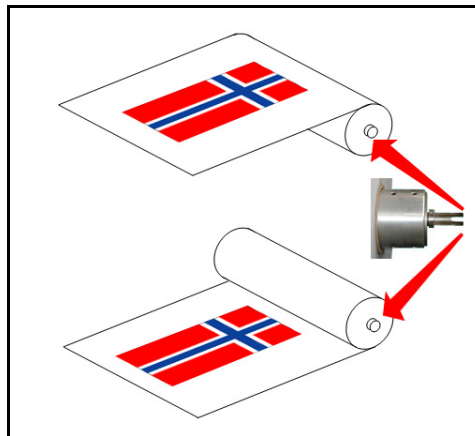

Figure 4-37 - Film Orientation
5. Insert shaft into new film roll. Make sure that shaft is oriented so that its slotted end is on the side shown and the film unrolls in the direction shown. As the diagram shows, the direction in which the film unrolls depends on whether the print image on the film is on the inside or outside of the film. For clear films, it does not matter which direction the film unrolls (*Figure 4-37*).